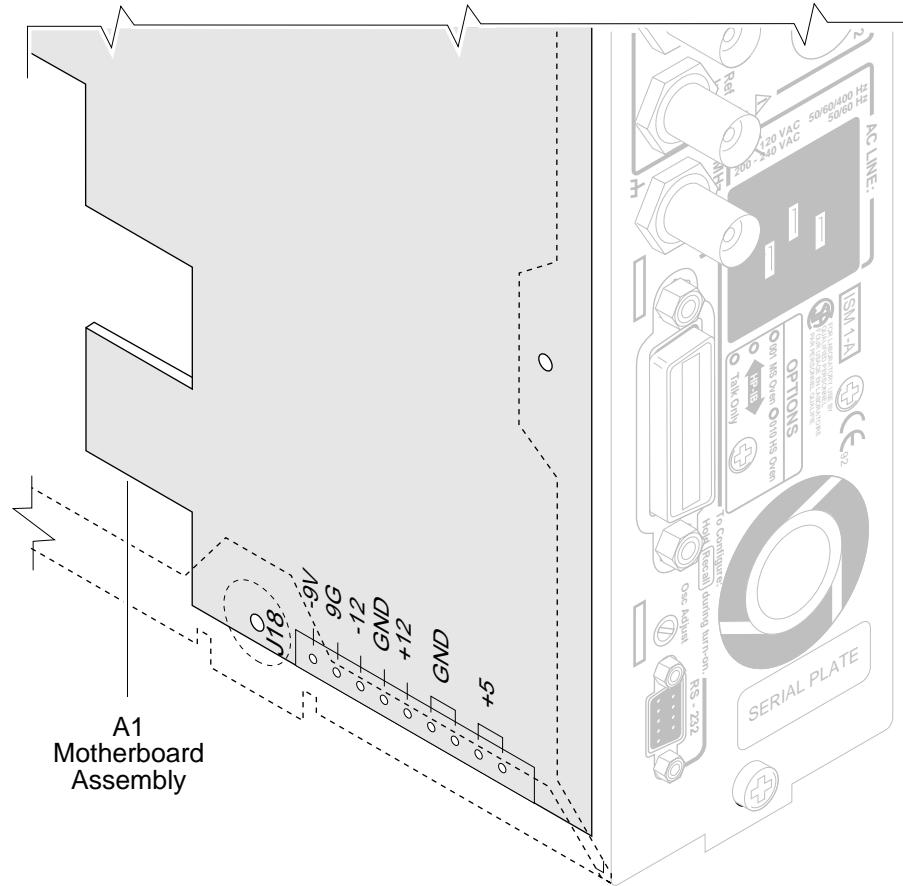

Figure 2-9. A4 AC Power Supply Testpoint Locations on A1 Motherboard Assembly (Bottom View)
- 4 Connect the negative lead of a voltmeter to the chassis and verify that the voltages in Table 2-4 match the voltages measured on connector J18 of A1 Motherboard Assembly. See Figure 2-9 for illustration of J18 viewing from the bottom of the Counter.
BE CAREFUL to NOT short the positive-side lead of the voltmeter to the chassis when probing at the testpoints shown in Figure 2-9.